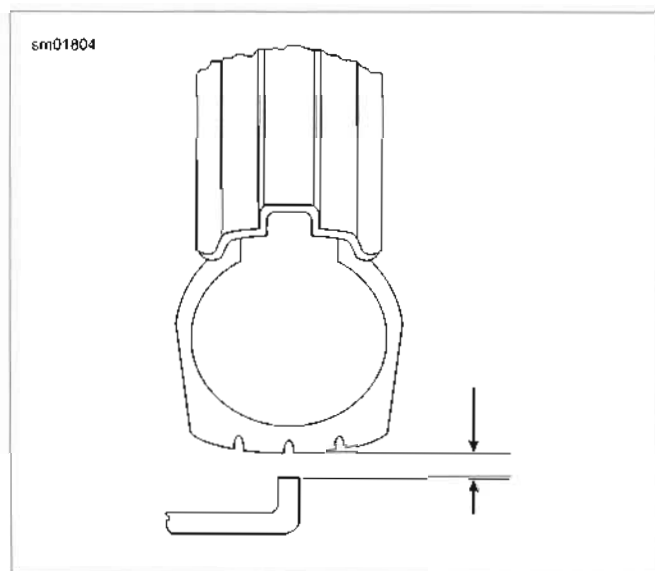

Figure 2-34. Checking Tire Radial Runout
2. See Figure 2-34. Turn the wheel on the axle and measure tire radial runout at the tread centerline.